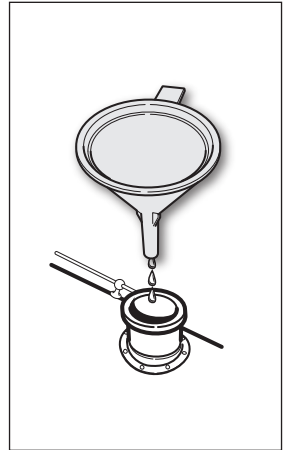
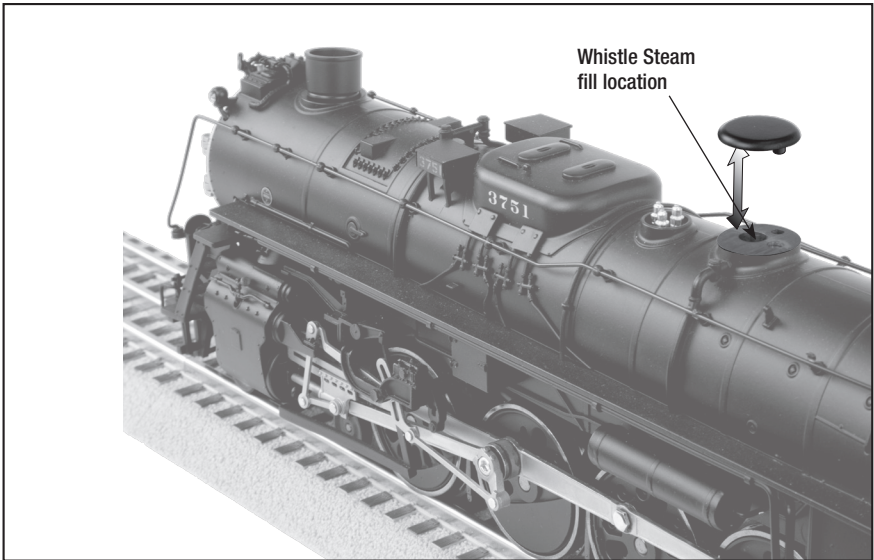

Figure 4. Adding smoke fluid to the main stack
Figure 5. Whistle Steam (auxiliary) smoke fluid fill location
**To prevent damage to the heating elements, never operate your locomotive's smoke units without smoke fluid.** When adding fluid, **DO NOT EXCEED 20 DROPS** per smoke unit as this can cause your smoke units to become oversaturated and allow leakage onto the electronics. Add 20 drops initially to the main stack (see Figure 4) and to the whistle steam fill location (see Figure 5). Add 10 to 20 drops thereafter.